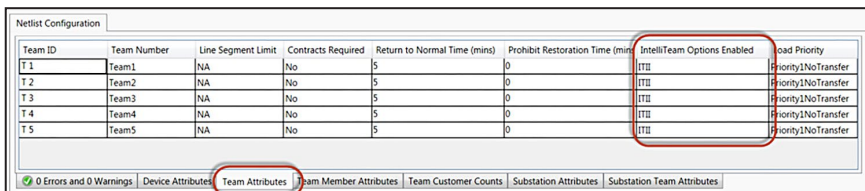

Figure 8. The Team Attributes>IntelliTeam Options Enabled setting.
- STEP 4.** For the **IntelliTeam Options Enabled** setting on the **Team Attributes** tab, select the **ITII** option, as shown in Figure 8.